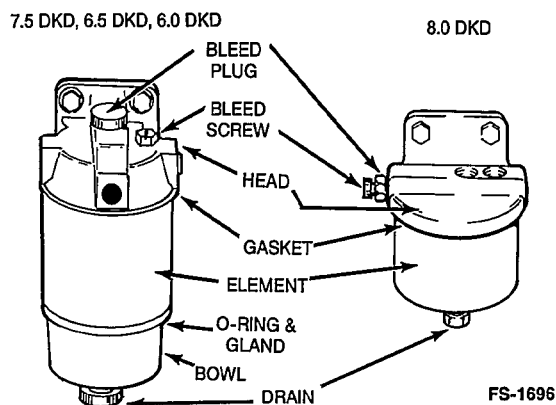

FIGURE 10. FUEL FILTER ASSEMBLY
1. Loosen drain and bleed screws. Collect fuel in suitable container. Remove bleed plug. See Figure 10.